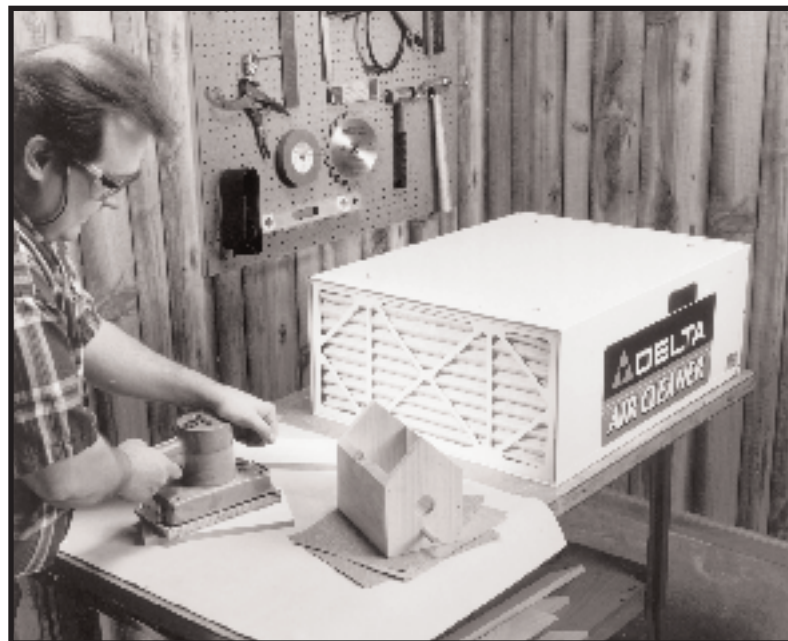

Fig. 12
- Fig. 12 illustrates the air cleaner as it can be used in bench-top sanding applications.